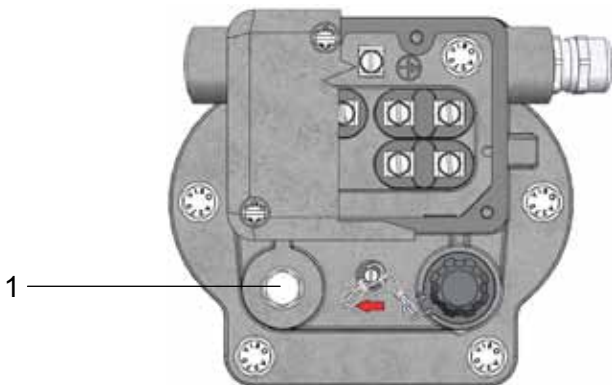

Figure 2 - Screw plug
**Therefore, do not open the screw plug (Fig. 2/ No. 1).**